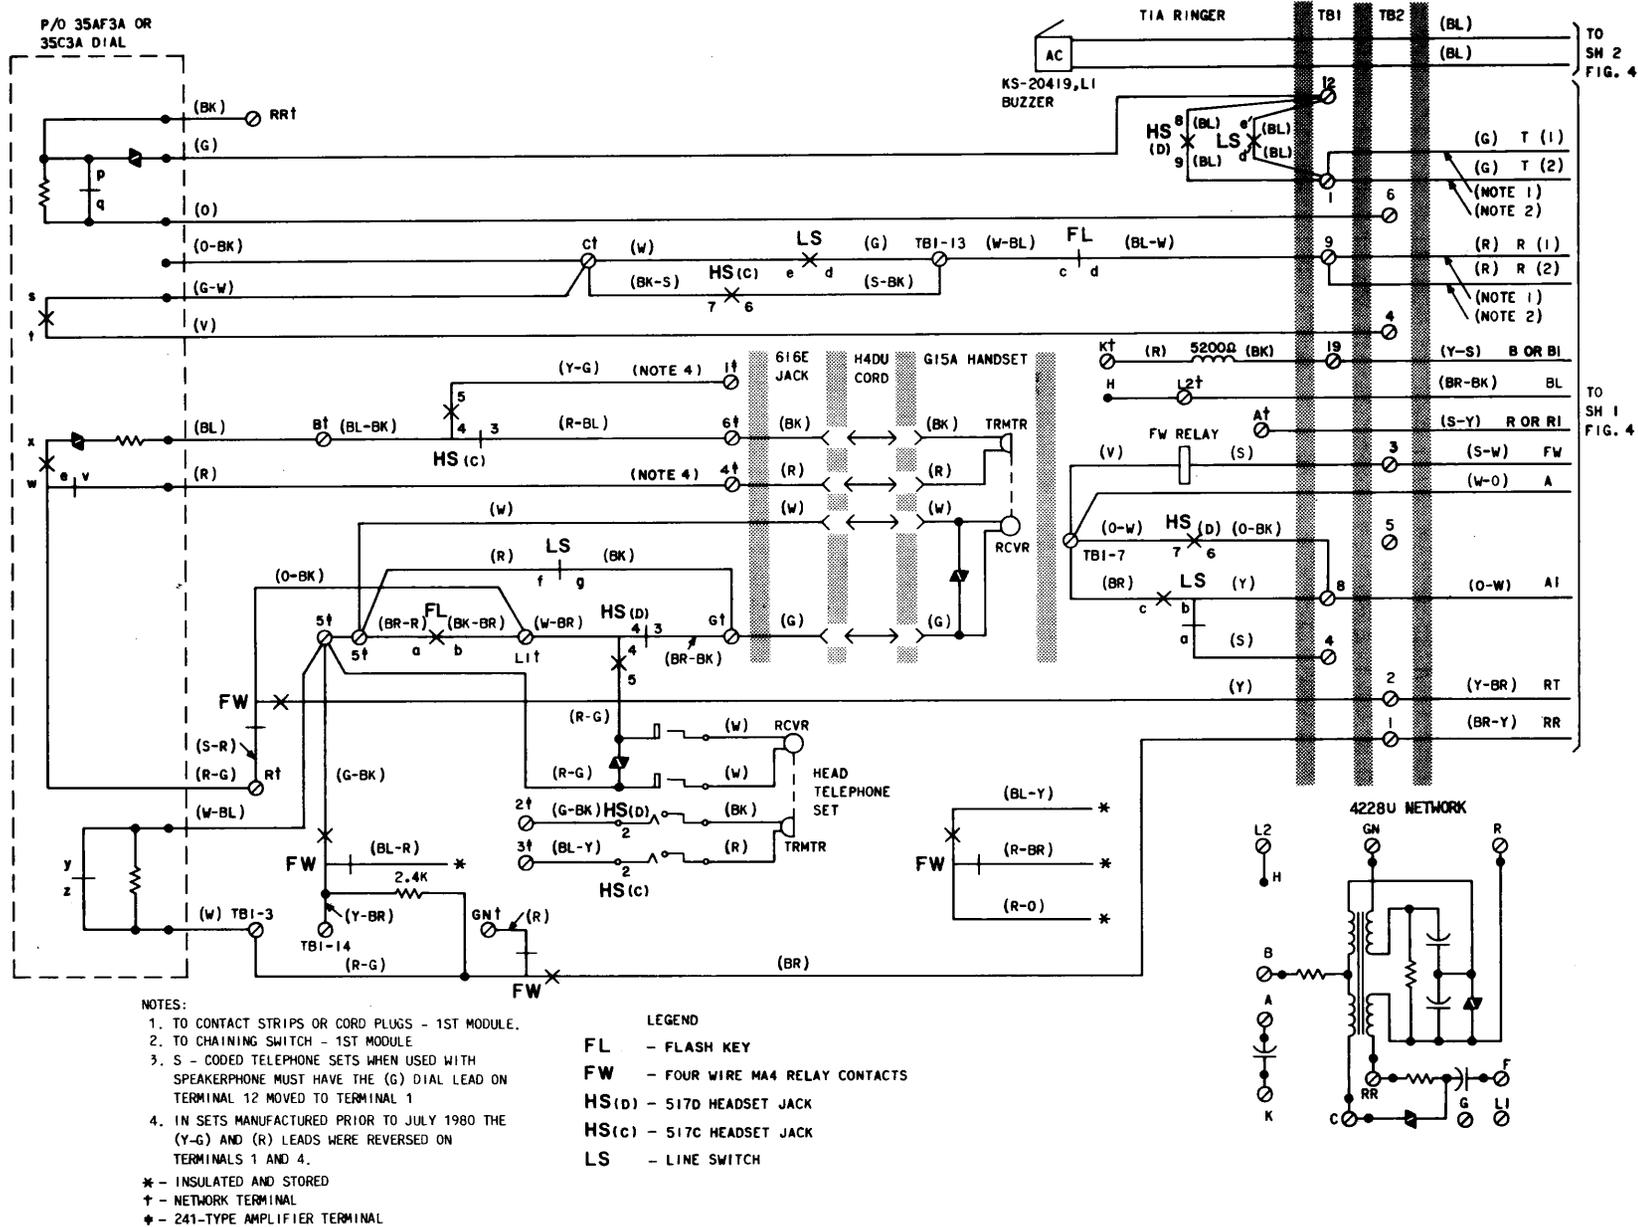

Fig. 3—2682AAMS1 and 2683AAMS1 Telephone Set, Connections
- Update Fig. 3, 4, and 5
1.04 ♦The 2682AAMS1 and 2683AAMS1 (S coded) sets have a new line switch and headset jack. The line switch opens both the tip and ring side of the line. The headset jack is redesigned to operate in conjunction with the new line switch (Fig. 3, and Fig. 4, Note 13).♦